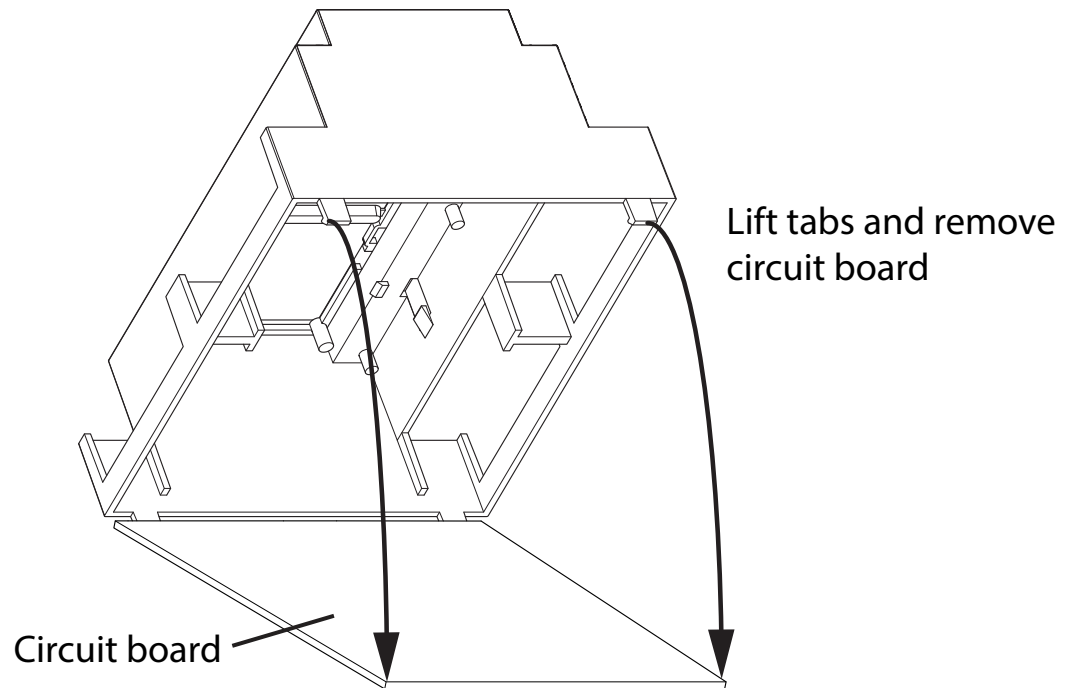

Figure 3 Lift tabs and remove circuit board
3. Hold the circuit board with one hand, and with the other hand lift the tabs so that you can remove the circuit board from the enclosure. See Figure 3.